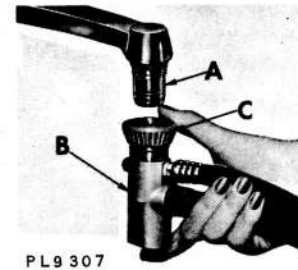

Fig. 7
3. Pull hoses and coupler from hide-away compartment at the back of the dishwasher and attach coupler (B, Fig. 7) to adapter (A, Fig. 7) by depressing outer ring (C, Fig. 7). When adapter and coupler are joined, release outer ring which snaps upward for snug fit.
4. Depress coupler ring (C, Fig. 7) and remove coupler from faucet adapter. Return hoses to compartment.